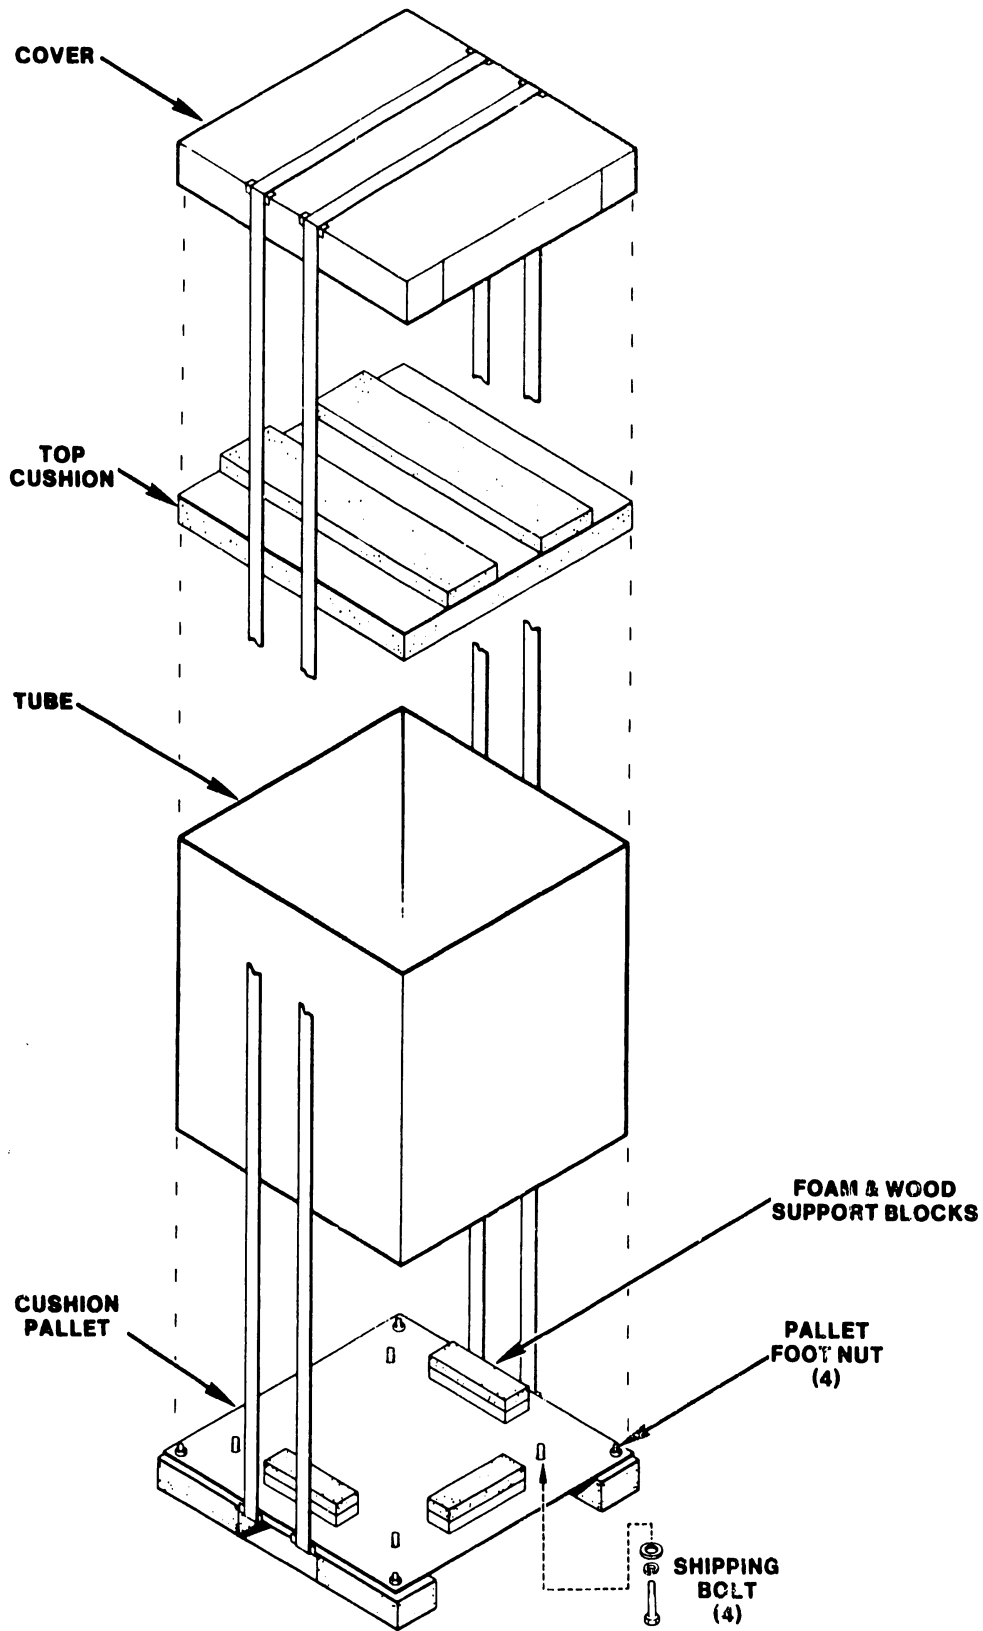

Figure 4-1. VS-85 Shipping Carton
3. Remove the top cover, corrugated/foam top cushion, and outside tube. (See figure 4-1.)